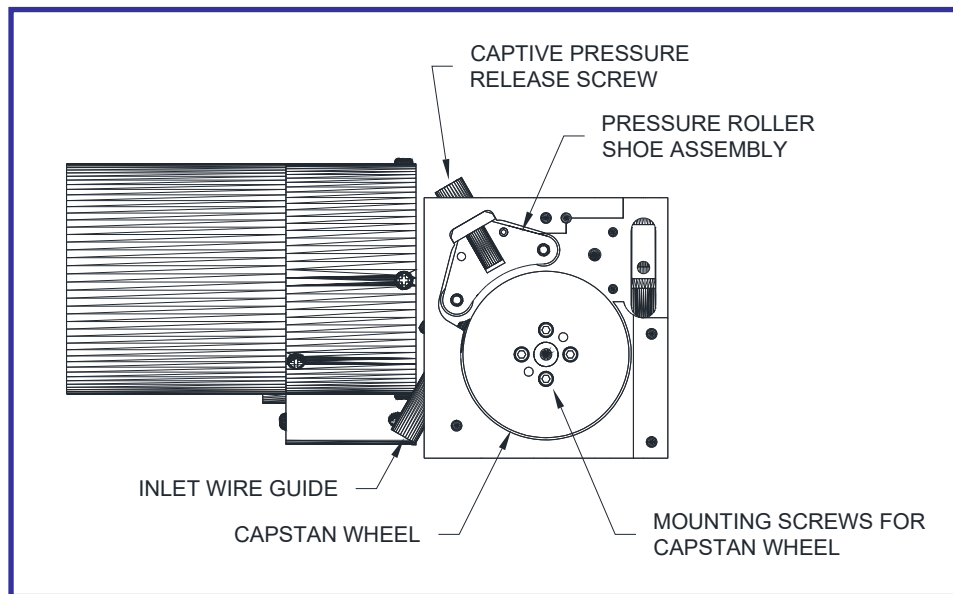

Figure 5 – Capstan Wheel Installation
- 3.3 To compress the pressure roller shoe assembly spring. Use a screwdriver to tighten the captive tension release screw located on the top of the capstan wire feed housing as shown in Figure 5. Tighten the captive fastener until the tension rollers clear the wire drive wheel. Remove the four-drive wheel retaining screws and remove the wire drive wheel.